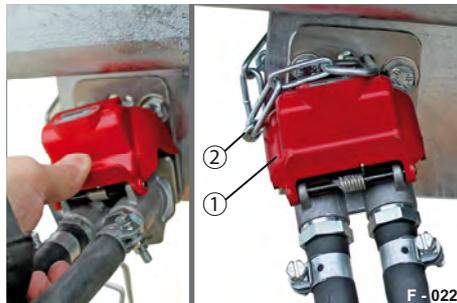

Fig. 22 Duo-Matic, parked
- ▶ Insert the spring pin (Fig. 22/2) into the bore holes.